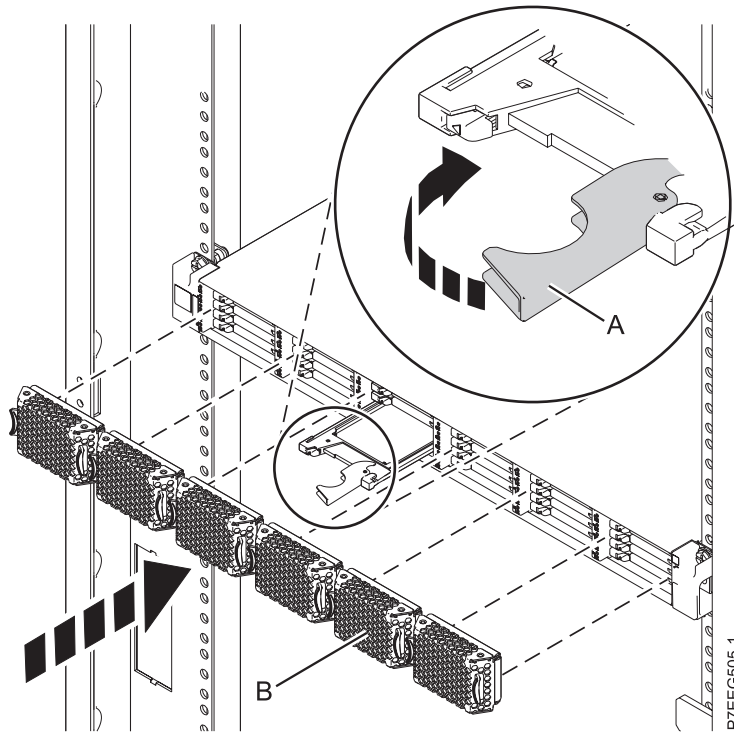

Figure 7. Installing a solid-state drive in the EDR1 PCIe storage enclosure
1. With the handle in the unlocked position, align the solid-state drive with the guide rails in the enclosure. See Figure 7 on page 15.
5. Rotate the handle (A) to the locked position.
6. Install the bezel (B).